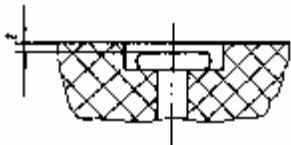

Figure 7-1-1 Measure rivet depth
(1) Clutch driven plate assembly
①Wear on friction plate. Measure 2 rivets’ depth on driven plate (from friction plate surface to rivet head, “t” in figure 7-1-1). If wear amount is equal or less than limit (chart 7-1-1), one should replace driven plate assembly or fix friction plate again with rivets. Remount rivet if it is loosening. Replace two friction plates at the same time.